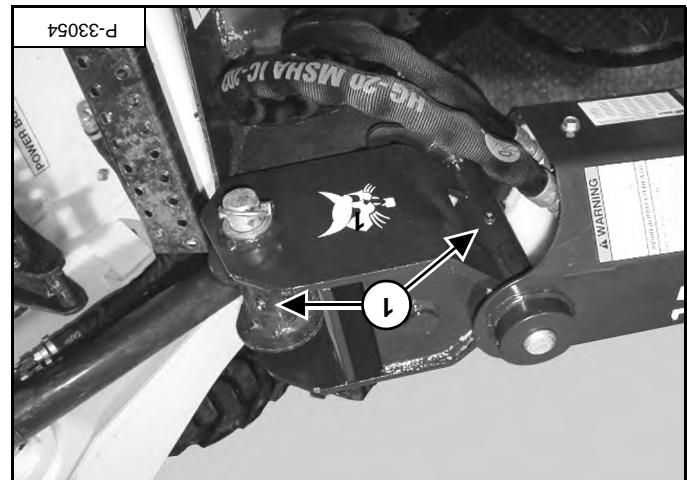

Figure 186
Lubricate the two grease fittings (item 1) [Figure 186] every 8 hours of operation.